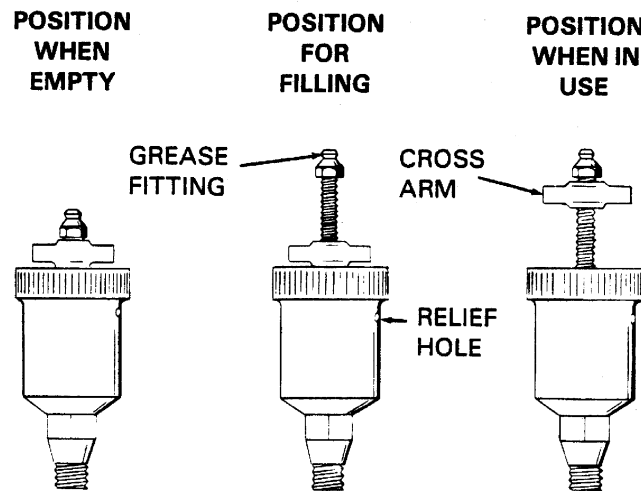

Figure 5. Automatic Lubricating Grease Cup
Before removing the seal assembly, turn the cross arm on the seal grease cup (16) clockwise until it rests against the cover (see figure 5). This will prevent the grease in the cup from escaping after the seal is removed.
Before starting the pump, fill the grease cup through the grease fitting with a good grade of No. 2 pressure gun grease until grease escapes from the relief hole. Turn the grease cup arm counterclockwise until it is at the top of the stem; this will release the spring to apply grease to the seal (see figure 5).